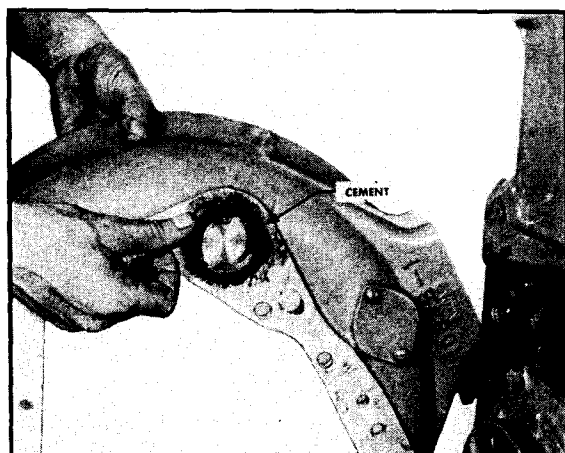

Fig. 12-72. Cementing gasket in camshaft counterbore
1. Clean the mating surfaces of the flywheel housing and the cylinder block of all dirt and burrs. Cement gasket in camshaft counterbore of flywheel housing. Fig. 12-72.